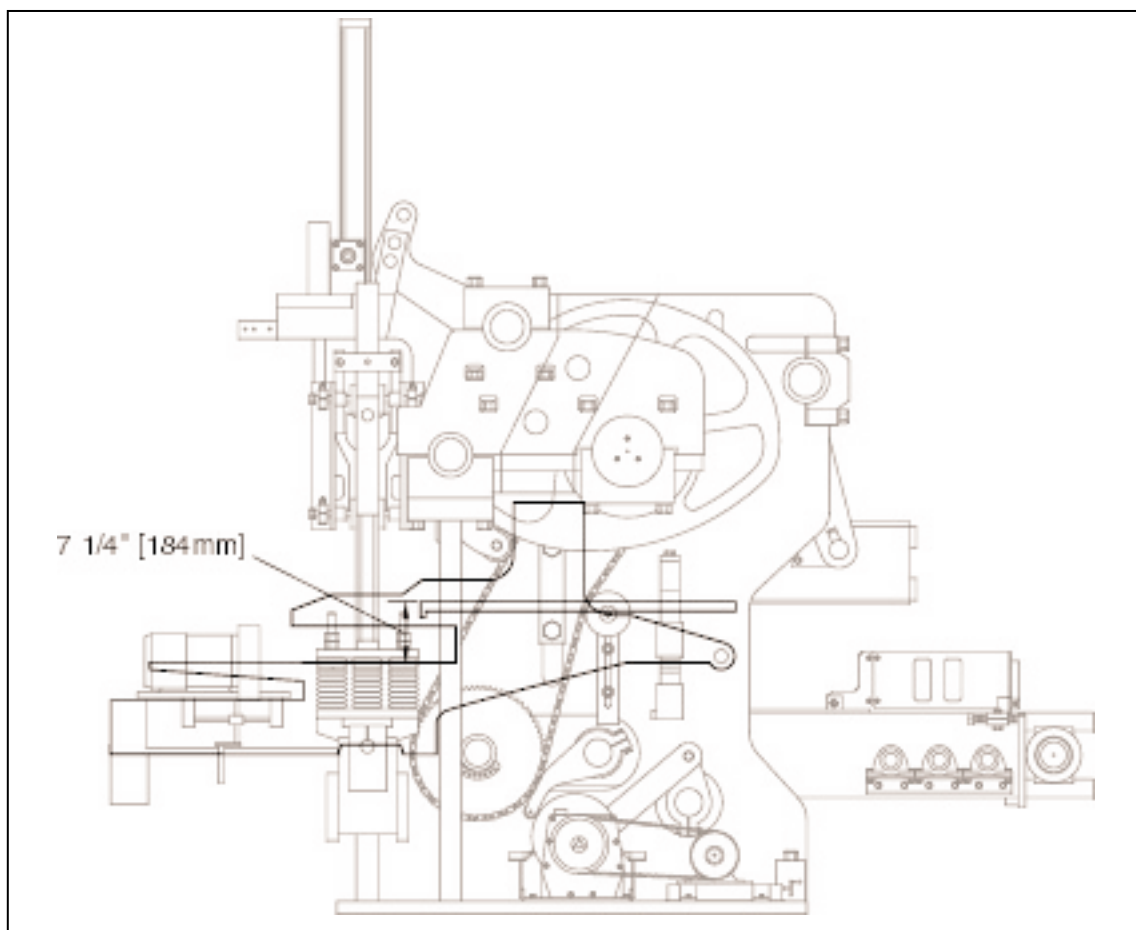

Figure 4.11 APRON PLATE ABOVE MOLD THROAT ADJUSTMENT.
4.1.4 Reconnect autofeed linkage and adjust so that the top of the apron plate is **8 3/4" [222mm]** above the mold throat at the lowest position of the autofeed (see figure 4.11). To adjust, lower or raise the autofeed until apron plate is in correct position.